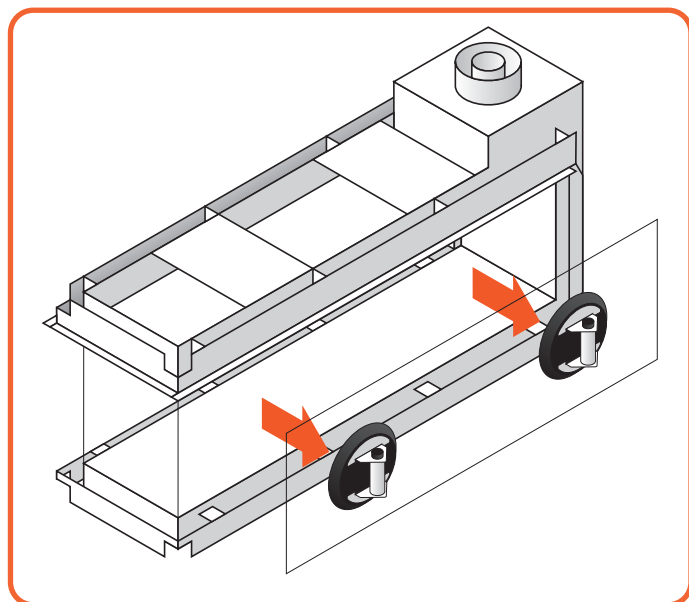

Figure 11.13 | Remove glass
- Lift the glass out of the lower glass rail and tilt it out through the opening, as seen in Figure 11.13.